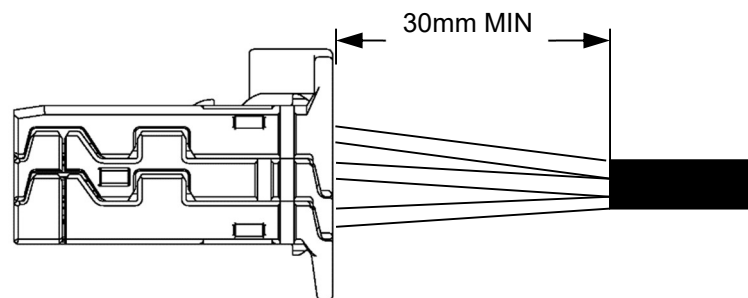

Fig.30
**Note** The completion of stacking the layers (6-4) is shown in Fig.30. When taping before the stacking, consider the distance that won't interfere the stacking.